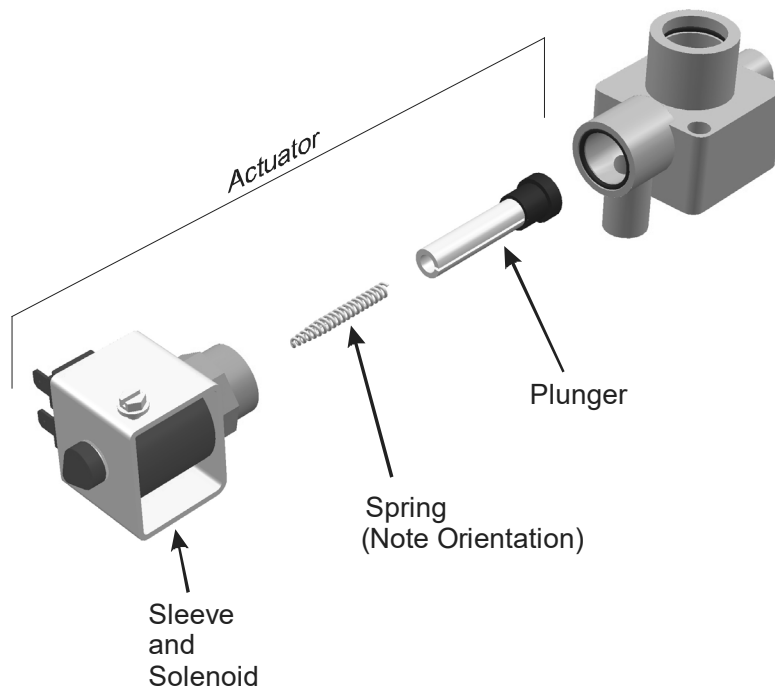

Figure 36: Drain Valve Actuator Assembly
- 7 Reassemble actuator making sure tapered end of spring is oriented as shown in Figure 36. Tighten brass nut 1/4 turn past hand tight.